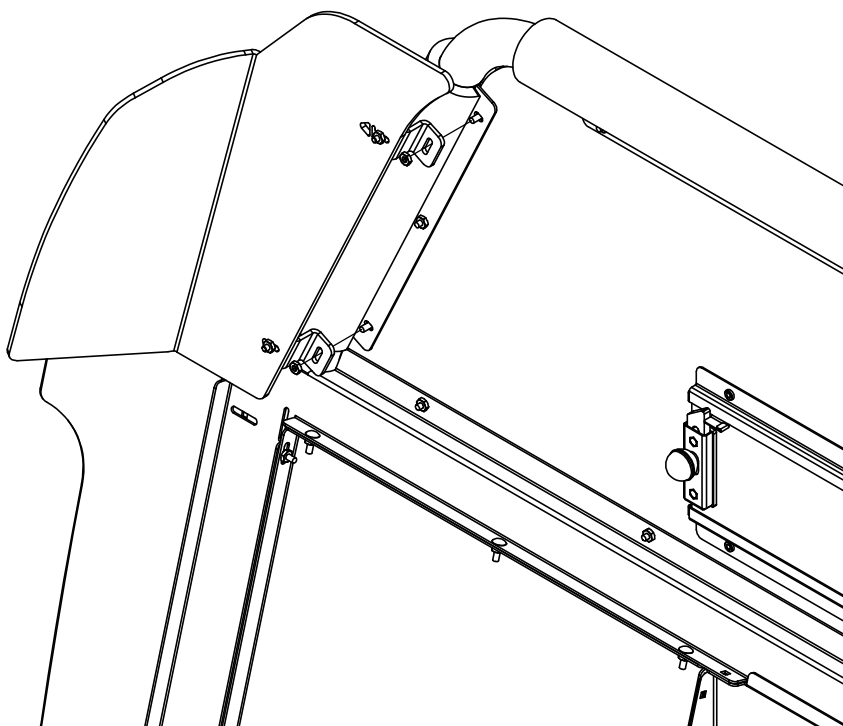

FIGURE 09
15. REMOVE THE UPPER AND LOWER KEEPER NUTS ALONG THE RIGHT AND LEFT SIDE OF THE PARTITION WINDOW. ATTACH THE UPPER WING ASSEMBLIES TO THESE LOCATIONS USING THE REMOVED KEEPER NUTS (FIGURE 09).